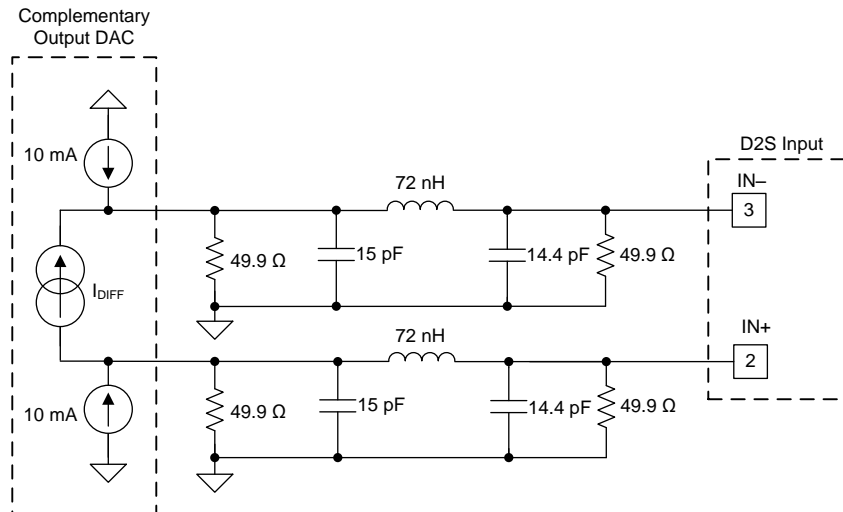

Figure 5. 200-MHz Butterworth Filter Before D2S Inputs
1. In order to reduce the high-frequency noise and distortion components from the previous stage driving the D2S, a passive RLC filter can be inserted prior to the D2S inputs. Figure 5 shows an example of a third-order, 200-MHz, Butterworth filter placed between the DAC output and D2S input. The THS321xEVM is able to evaluate system performance with similar RLC-filter architectures installed on the board.